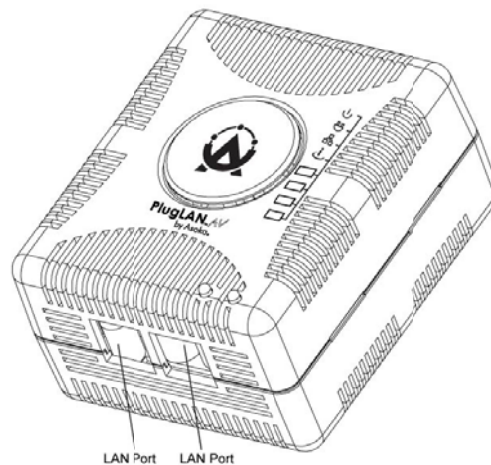

Figure 1-3: LAN Ports on the Bottom of the PlugLAN 8660 SmartBridge AV Ethernet Adapter
2. Connect either end of the supplied Ethernet cable to your computer's network (RJ-45) port. Connect the other end of the cable to either of the two RJ-45 connectors labeled **LAN Port** on the bottom of your PlugLAN 8660 SmartBridge (see Figure 1-3).